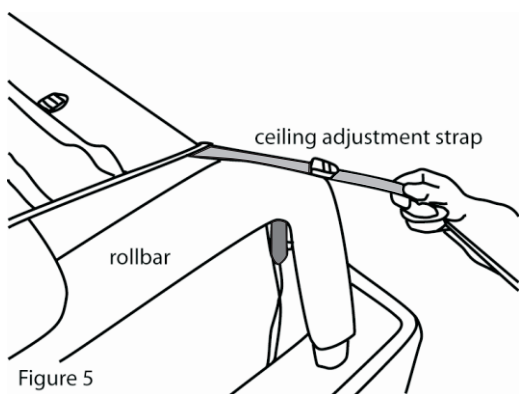

Figure 5
- Step 9.** Locate the ceiling adjustment straps (at rear corners on ceiling panel). Gently pull the strap over the rollbar, and around the seatbelt stud (toward the inside) and back up to the strap adjustment buckle. Tighten snug, and perform same procedure on the other side. Check top for evenness from side to side. See Figures 5, 6, 7, & 8. **NOTE:** if there is no rear seat belt assembly installed in the vehicle, use the included bolts and spacers to allow installation of the straps.